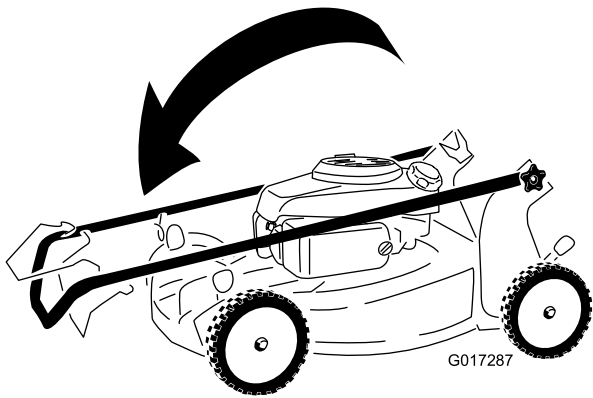

Figure 14
2. Fold the upper handle forward as shown in Figure 14.